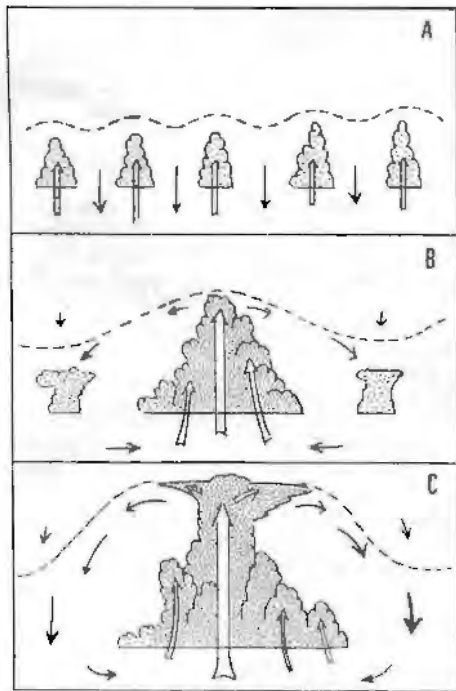

Fig 1
The process is illustrated in Fig 1. (A) shows the field of little cu, (B) shows how group protection allows a bigger cu to form, (C) shows the final Cb stage when all the little clouds have been suppressed.